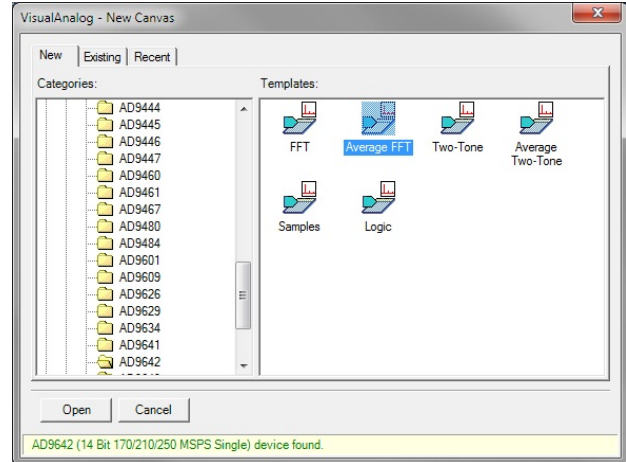

Figure 4. VisualAnalog, New Canvas Window
1. Open VisualAnalog® on the connected PC. The appropriate part type should be listed in the status bar of the **VisualAnalog – New Canvas** window. Select the template that corresponds to the type of testing to be performed (see Figure 4 where the AD9642 is shown as an example). The AD9642 is given as an example in this user guide. Similar settings are used for the AD9634. For the AD6672, the differences are noted where necessary in the steps that follow.